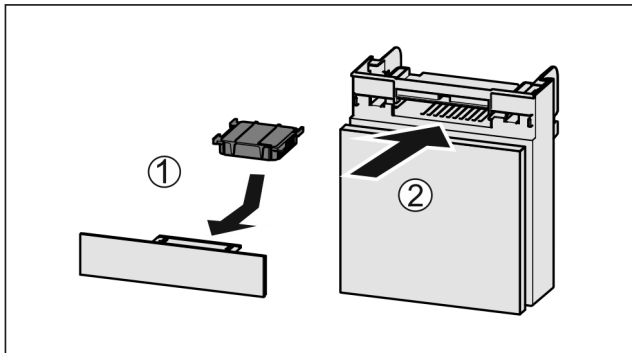

Fig. 117
- ▶ Insert the carbon filter as shown in the diagram Fig. 117 (1).
- ▶ Push the compartment in Fig. 117 (2).